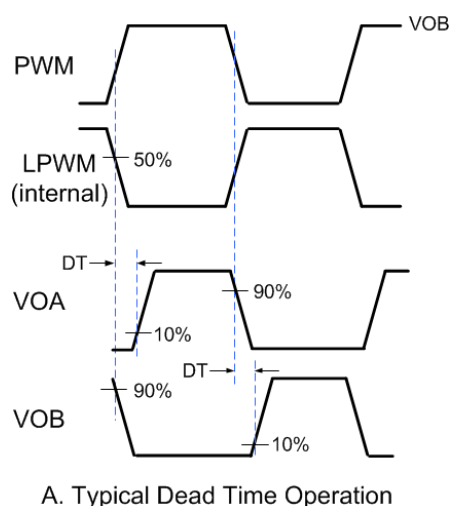

Figure 2.18. Dead Time Waveforms for High-Side/Low-Side Drivers
All high-side/low-side drivers (Si82394/8) include programmable dead time, which adds a user-programmable delay between transitions of VOA and VOB. When enabled, dead time is present on all transitions. The amount of dead time delay (DT) is programmed by a single resistor (RDT) connected from the DT input to ground per the equation below. Note that the dead time pin should be connected to GND1 through a resistor between the values of 6 k $\Omega$  and 100 k $\Omega$  and a filter capacitor of 100 pF in parallel as shown in Figure 3.1 Si82394/8 Application Diagram on page 18. It is highly recommended it not be tied to VDD1. See Figure 2.18 Dead Time Waveforms for High-Side/Low-Side Drivers on page 17 below.